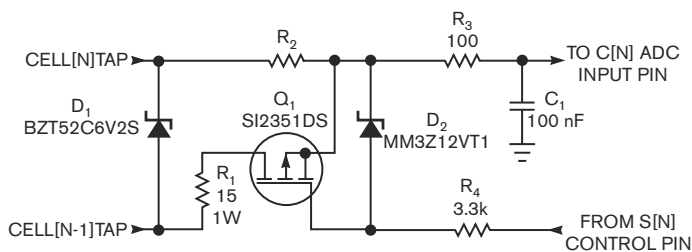

Figure 12 Pins in the LTC6802 balance battery cells.
Automobile manufacturers must meet extremely high reliability standards, regardless of the power source their products use. Both the assembly of the battery pack and the pack's fault-detection requirements create challenges for the battery-monitoring system. The battery cells connect to the battery pack's monitoring and balancing electronics through a wire harness. During the assembly of the pack, the harness makes contact with the cells in a random order. Protection diodes and resistors are necessary for the electronics to survive the hot-socketing of the high-voltage, low-impedance cell stack. Figure 12 shows an example of the components between the wire harness and the LTC6802 monitoring IC (Reference 4). Components Q_1 , R_1 , and R_3 provide passive cell balancing. The S(N) output from the LTC6802 controls these components. Components R_3 and C_1 comprise an antialias filter for the LTC6802 ADC. Diodes D_1 and D_2 and resistor R_4 provide protection. D_1 is a standard 6.2V, 500-mW zener diode, which automatically distributes safe voltages across missing inputs as contacts mate in the cell-connection process. The 6.2V rating of the zener diode is high enough to minimize leakage current from the battery but low enough to protect the IC. D_2 protects the gate of balancing MOSFET Q_1 . R_4 protects the S(N) output in the event that D_2 is forced on.